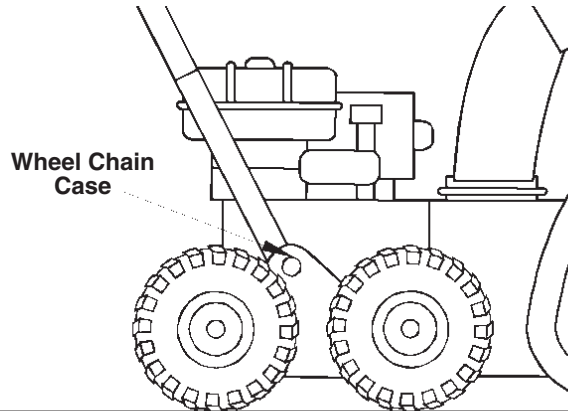

FIGURE 1.
1. The wheel chain case is equipped with a grease fitting. A cold weather multi-purpose grease should be pumped into chain case after every 25 hours of operation. See figure 1.